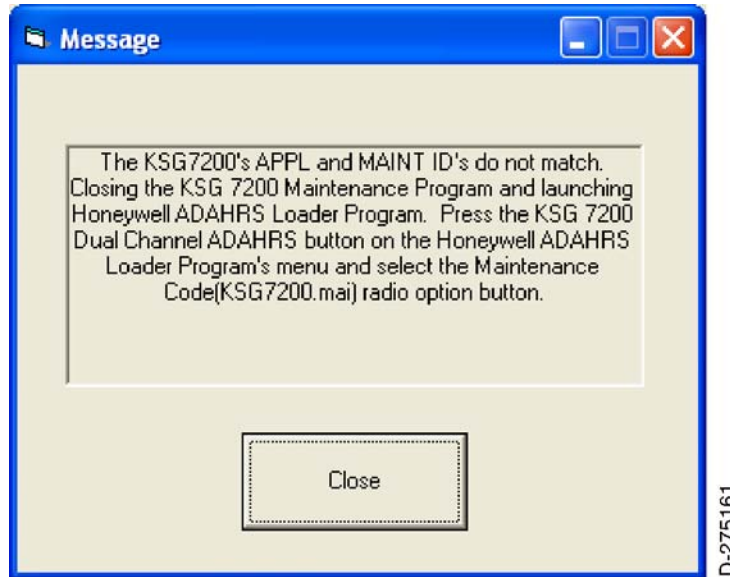

Figure 17. (Sheet 1 of 1) Message Window (Updated)
- (1) Restart the KSG 7200 field maintenance program.
- (2) Select the appropriate COMM port on the laptop computer, then click on the Start Maintenance button.
- (3) The message shown in Figure 17 will appear because the application software has been updated but the maintenance software update has yet to be performed.